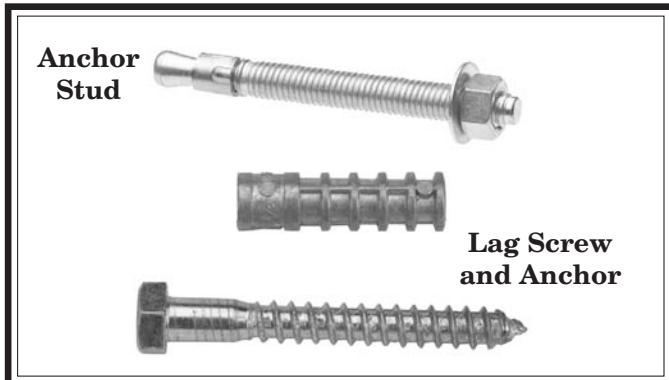

**Figure 11. Leveling pads and screws.**
- If using the included leveling pads (**Figure 11**), place them under the six leveling stud locations, then adjust the studs to level the lathe.